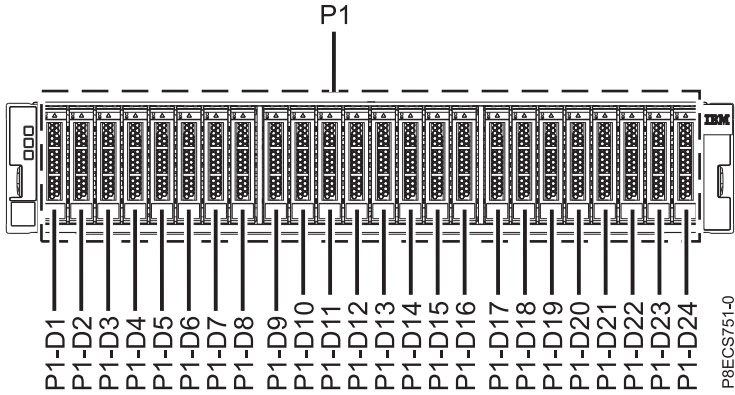
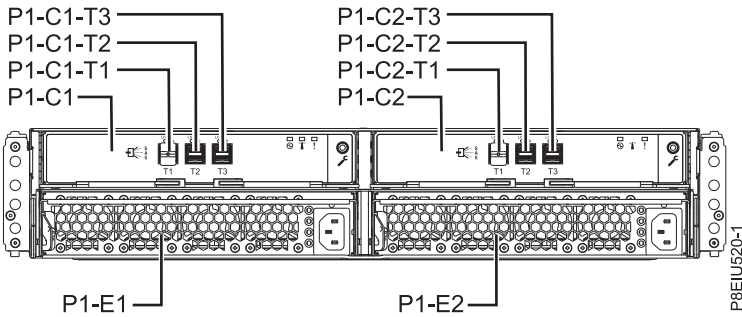
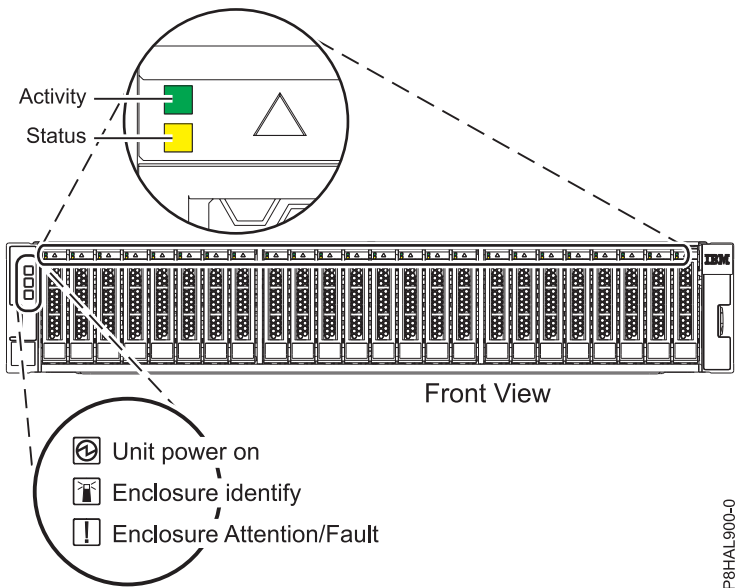

Figure 43. Front view of the ESLS storage enclosure showing the drive locations
Figure 44. Rear view of the storage enclosure
Figure 45. Front view of the storage enclosure showing the service indicators
3. Identify the part and the enclosure that you want to service. The disk drive and SSD slots are located in the front of the enclosure. Figure 43 on page 40 shows the front of the ESLS storage enclosure, Figure 44 on page 40 shows the rear view of the storage enclosure, and Figure 45 on page 40 shows the locations of the service indicators for the enclosure.